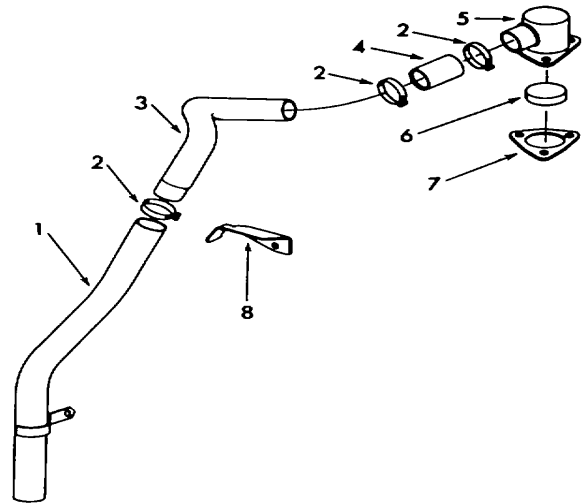

Figure 23. - Valve Cover Mounted Breather Assembly
- a. Remove screws securing the breather housing assembly (5, Fig. 23) and clamps (2) securing hose (4) to breather tube (3) and housing.
- b. Remove breather housing and element (6, Fig. 23).
- c. Install a new breather element (6, Fig. 23) and inspect the breather gasket (7). Replace the gasket if damaged.
- d. Reassemble components as shown in Fig. 23.